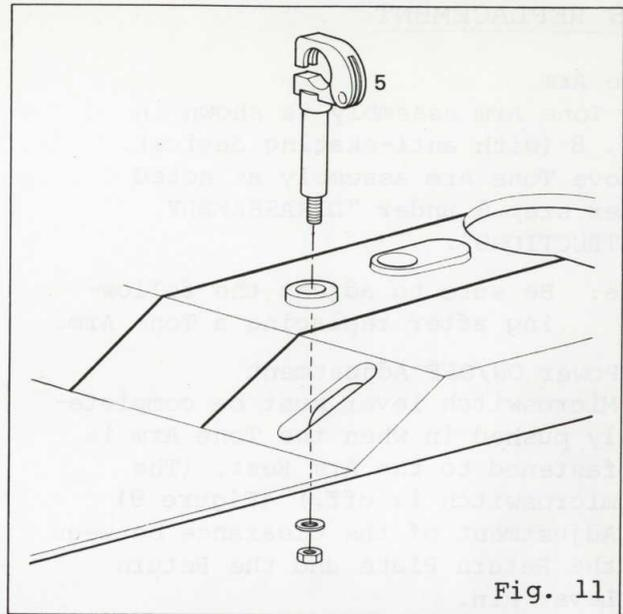

Fig. 11
3. The Arm Rest (5) is attached to the Trim with nuts: it can be removed by loosening the nuts. (Figure 11)